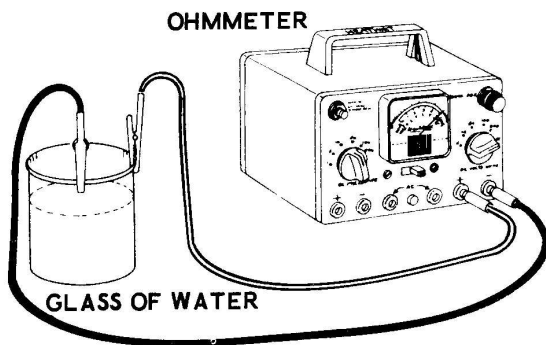

Figure 1J
- ( ) Clip each one of the test leads of your ohmmeter to each side of an empty water glass as shown in Figure 1J and note the resistance indication. This indicates the resistance of the glass, which is too high to read on an ordinary ohmmeter.